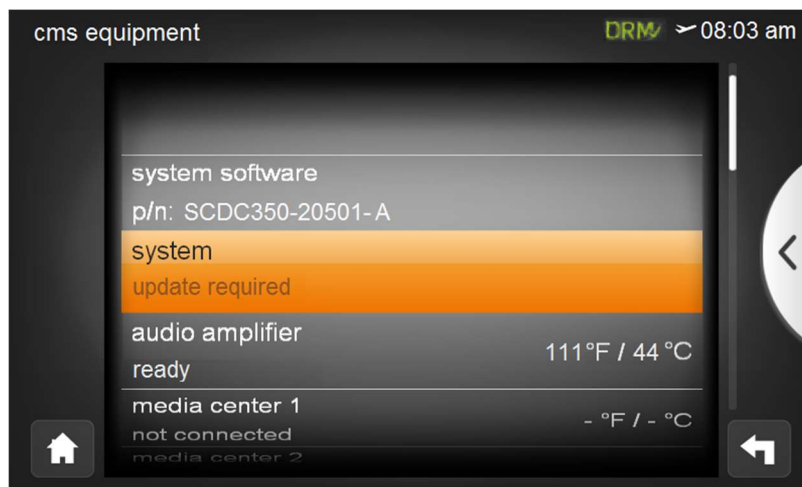

Figure 2: CMS equipment menu
“cms equipment” shows a list of all LRUs and their current status. The top item in the list will show the P/N of the CSDB currently installed on the Configuration Server (Figure 2).
- a) On the GCP, select “equipment” (Figure 1), “cms equipment”, “system software” (Figure 2) and note the P/N shown in “current p/n”. This is the CSDB currently loaded on the aircraft.